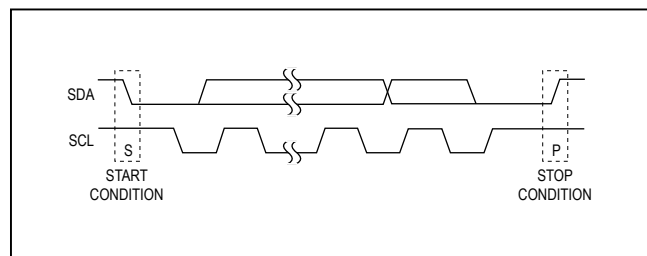

Figure 2. Start and Stop Conditions
addresses plus R/ \bar{W} bits, one or more data bytes, and finally a STOP condition (Figure 2).
Both SCL and SDA remain high when the interface is not busy. A master signals the beginning of a transmission with a START (S) condition by transitioning SDA from high to low while SCL is high. When the master has finished communicating with the slave, the master issues a STOP (P) condition by transitioning SDA from low to high while SCL is high. The bus is then free for another transmission (Figure 2).